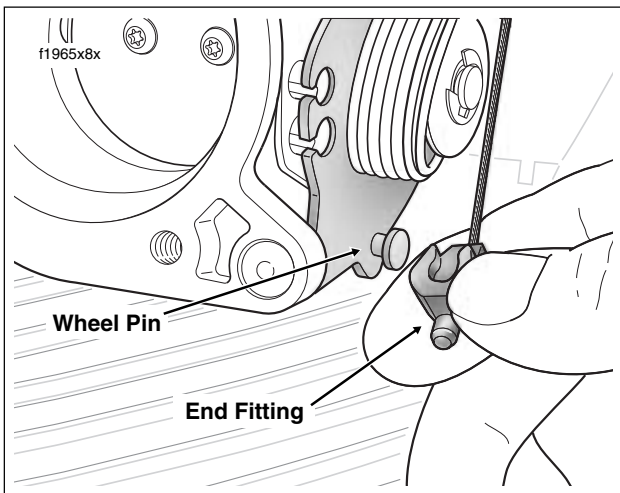

Figure 8-129. Remove End Fitting From Wheel Pin
3. Push the plastic end fitting on the cruise cable to the outboard side to release from wheel pin. See Figure 8-129.
2. Slide groove in cruise cable end fitting over cap of wheel pin. Push on end fitting until it snaps in place. See Figure 8-129.
2. Push the plastic end fitting on the cruise cable to the outboard side to release from wheel pin. See Figure 8-129.
12. Slide groove in cruise cable end fitting over cap of wheel pin. Push on end fitting until it snaps in place. See Figure 8-129.